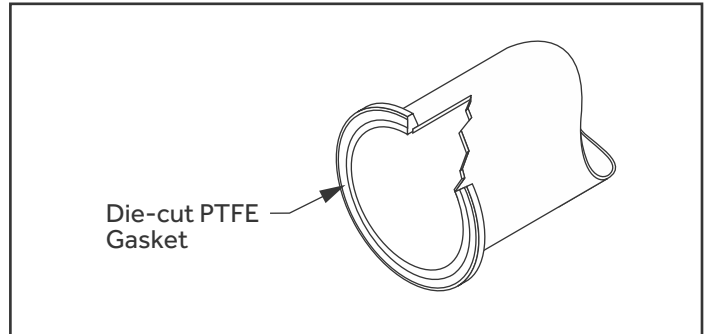

Fig. 17: Apply gasket for 2" (50.8) & 3" (76.2) EZ duct
1. Apply Gasket: Always use a new gasket. Peel the backing from the die-cut gasket and adhere it approximately centered to one of the flanges. Adhere the gasket to the flange that is already in the system if possible. Smooth the gasket with a finger to seat the adhesive fully after final positioning. Only apply one gasket per joint. (Fig. 17)